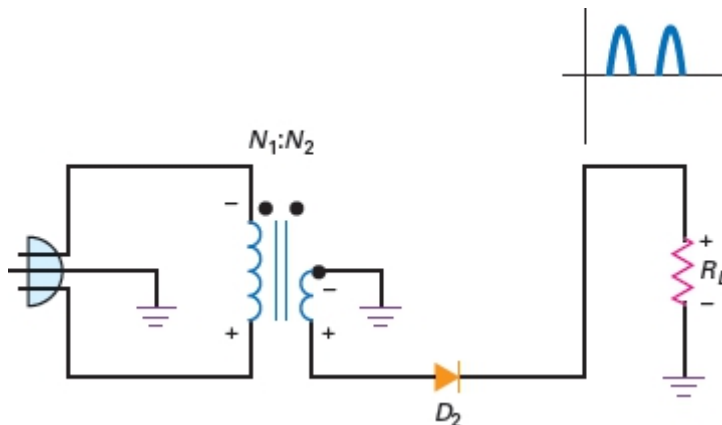

Figure-42 Equivalent circuit for negative half-cycle
- Figure-42 shows the equivalent circuit for the negative half-cycle. This time, D2 is forward biased. As you can see, this also produces a positive load voltage.